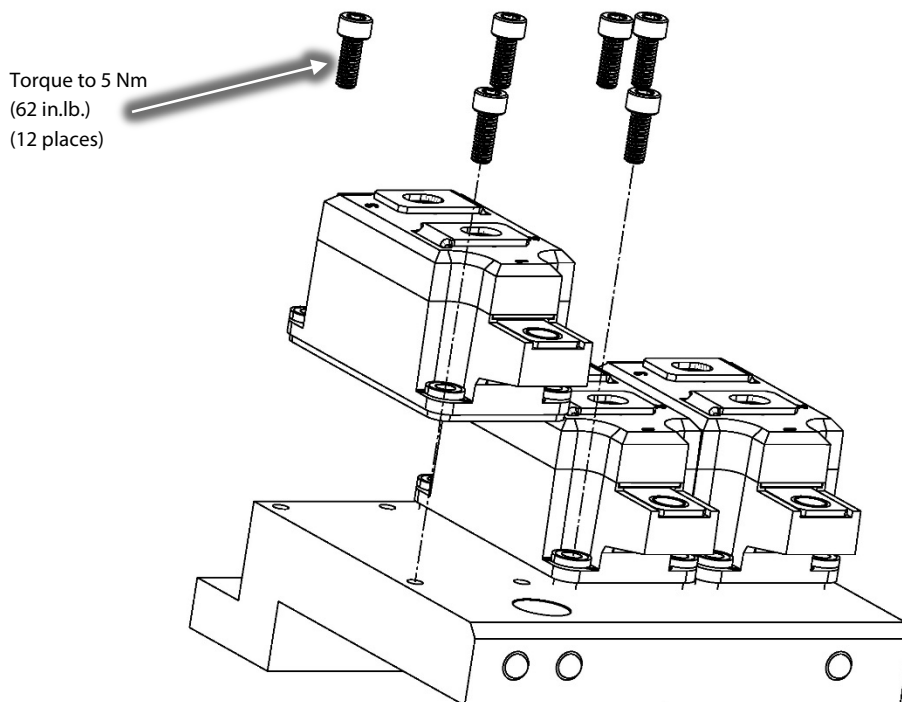
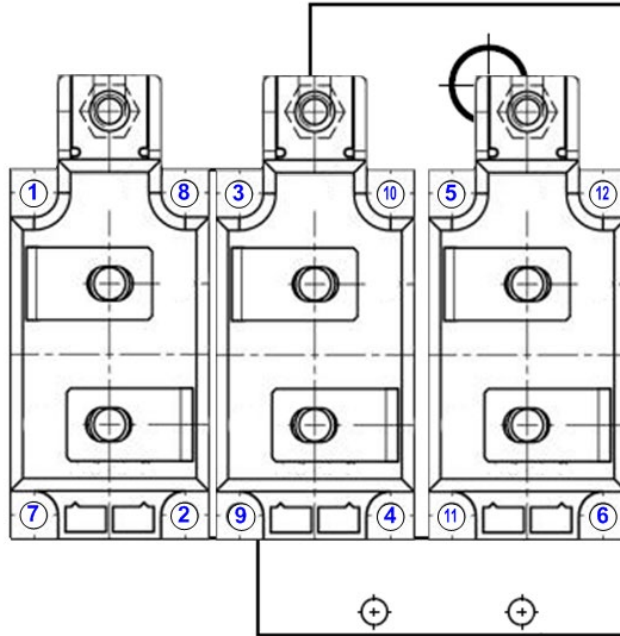

Figure 16 – SCR Installation
Figure 17 – SCR Torque Pattern
5. Using the 12 M6x16 Screws, install the three (3) SCRs. Finger-tighten and then, according to Refer to Figure 16 (SCR Installation) and Figure 17 (SCR Torque Sequence), tighten in a crisscross pattern in two (2) stages.